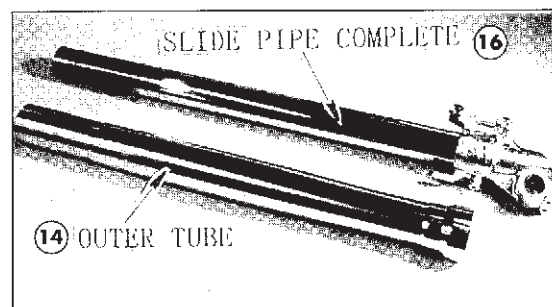

Fig. 2
- 2) Outer tube and slide pipe (Fig. 2).